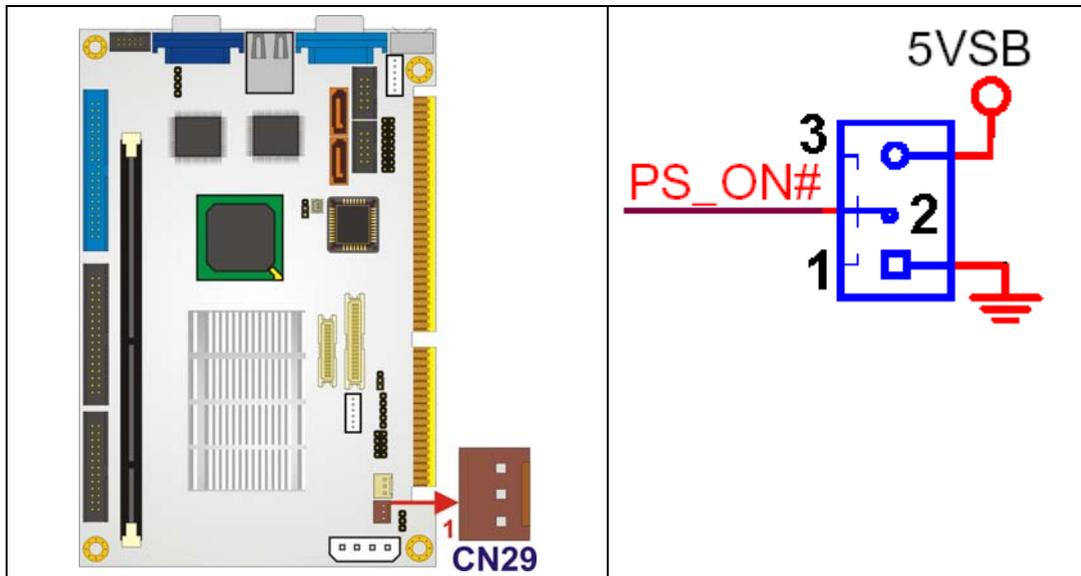

Figure 4-7: Backplane to Mainboard Connector Location
- CN Location:** See Figure 4-7